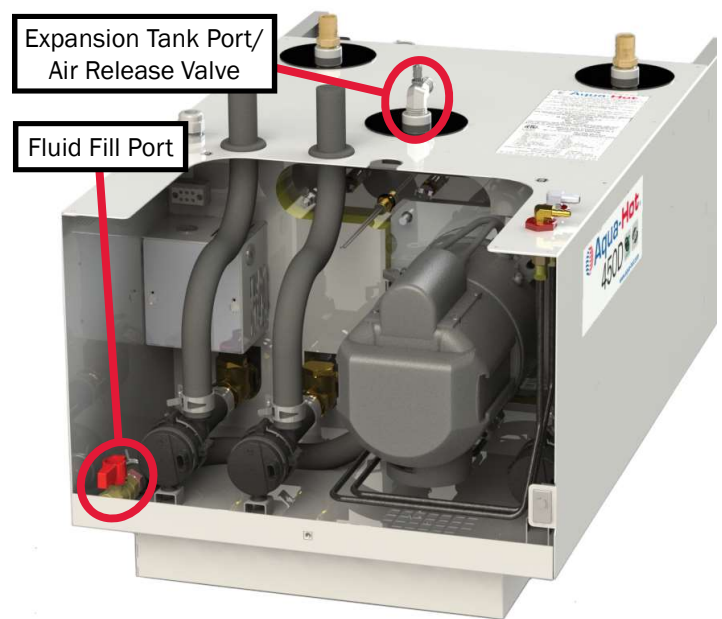

Figure 173
3. Open the Aqua-Hot’s drain valve located at the front of the heater. Reference Figure 173.
2. Open the Aqua-Hot’s drain valve located at the front of the heater. See Figure 173.